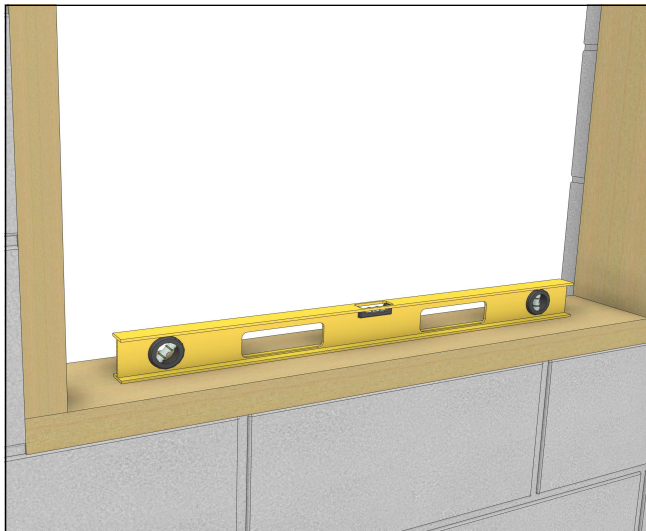

Figure 30
4. Check the sill for level and adjust if necessary. See Figure 30.